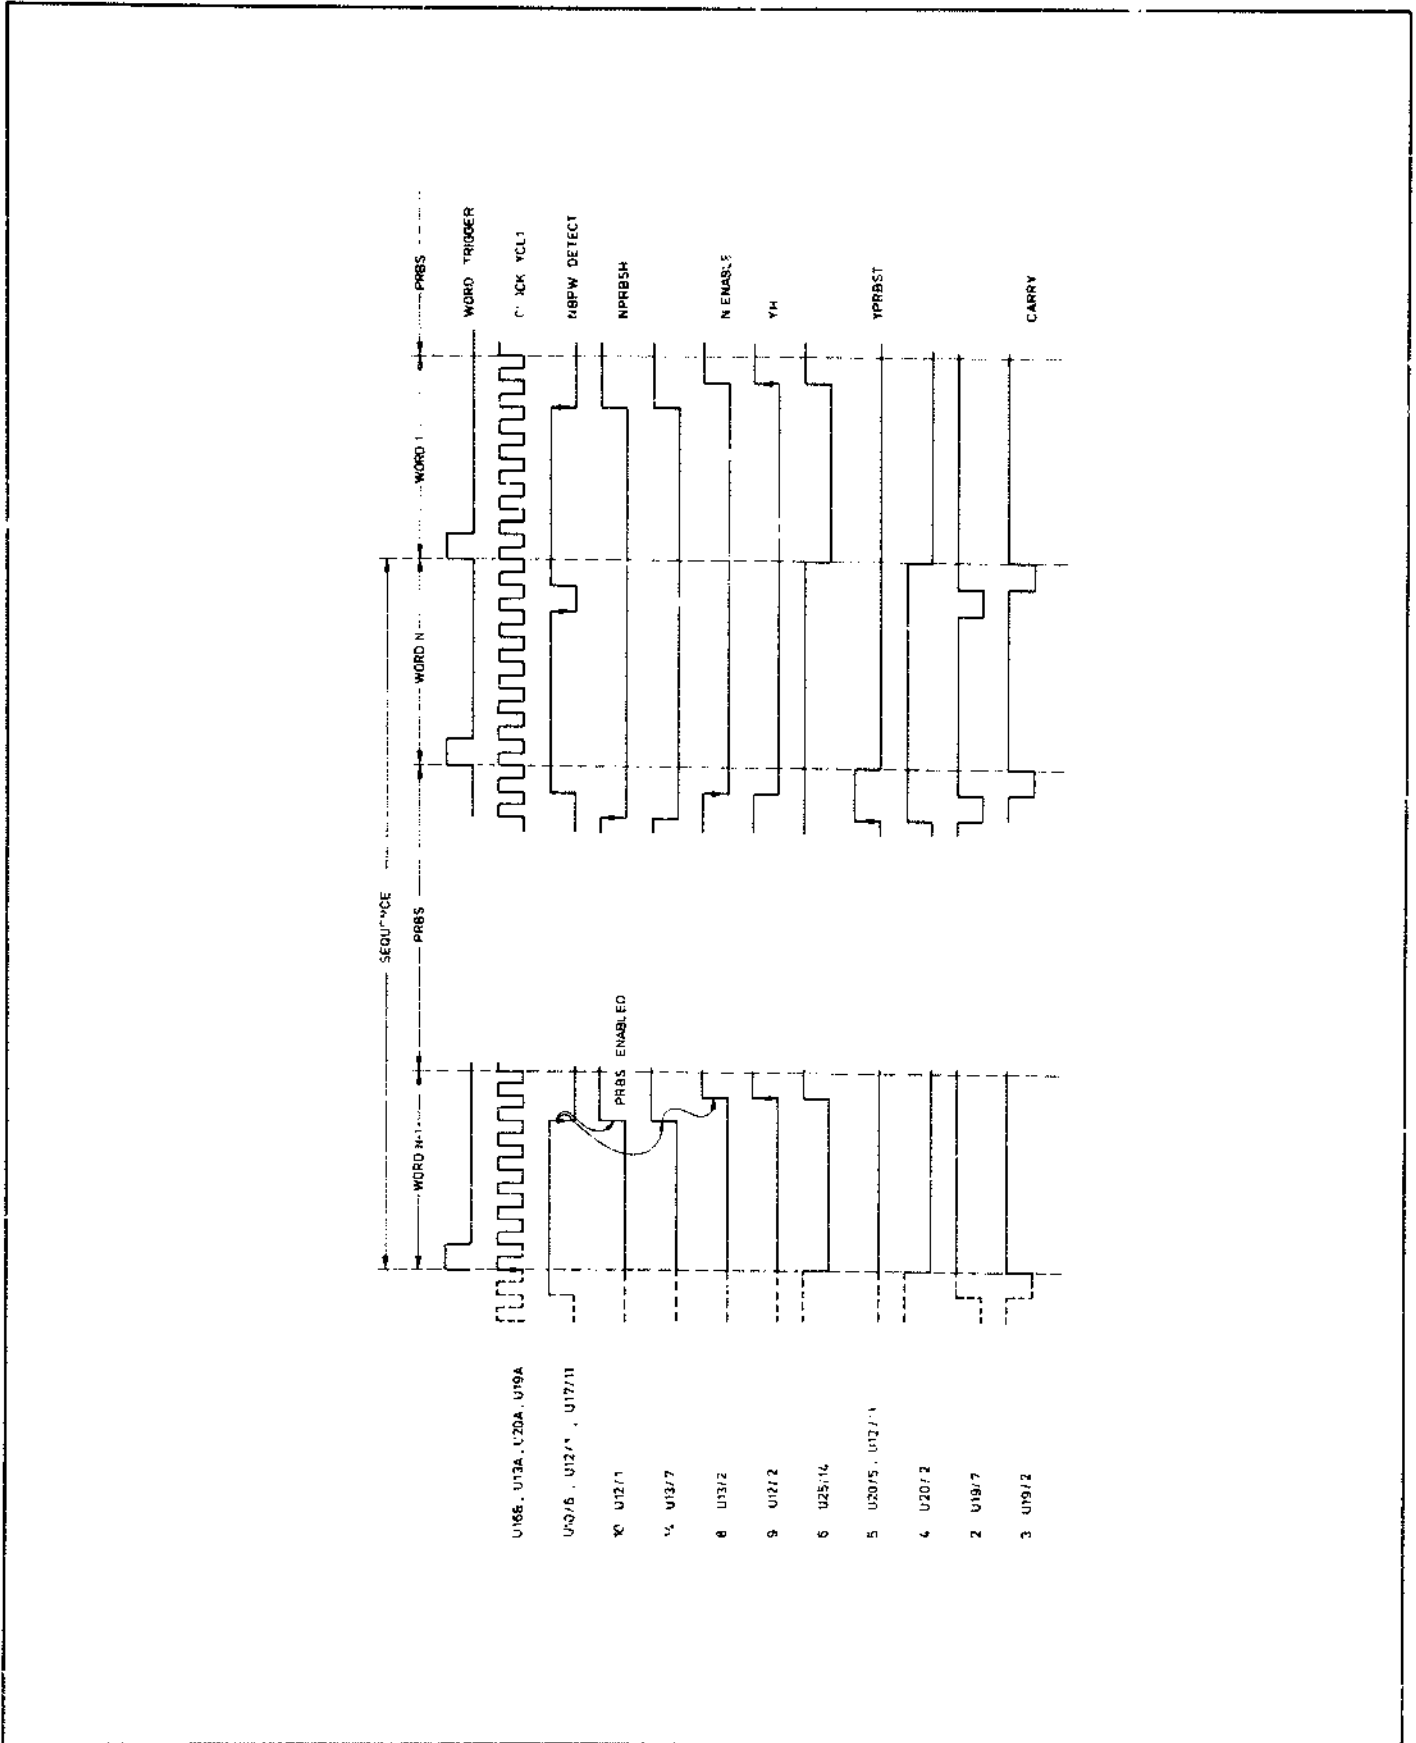

Figure 8-4-4. Mixed Mode Timing Diagram
A more detailed description of MIXED MODE operation is given as follows and is based on the timing diagram Figure 8-4-4. As already described in 'WORD MODE Readout', the preset conditions for the BPW counter and WPF (NUMBER OF WORDS) counters are established during the last two clock cycles of the previous frame. On the second last clock cycle, a low is generated at U17 pin 14 (word end detect) and U17 pin 2 (last bit detect), each of which is clocked through flip-flops U16B and U20B on the last clock cycle for presetting the requisite counters. The first clock cycle of the new frame clocks the preset numbers (2 into the BPW counter and NUMBER OF WORDS into the WPF counter) into the respective counter, at the same time setting the BPW counter to increment mode (a high is generated at U16B Q output on the first clock cycle of a frame as 'word end' (YWE) is no longer true — a high at the S2 inputs setting the counter to increment mode) and the WPF counter to decrement mode (a high is generated at U20B Q output because 'last bit' (YL) is no longer true on the first clock cycle of a frame — a high at the S1 inputs setting the counter to decrement mode).